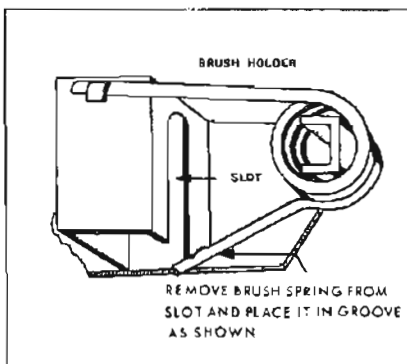

Figure 10-79—Releasing Brush Holder Spring Pressure
(1) Open armature.
(2) Brushes sticking.
(3) Brush springs improperly positioned (see Figure 10-79).
2. Release brush spring pressure against brushes as shown in Figure 10-79.